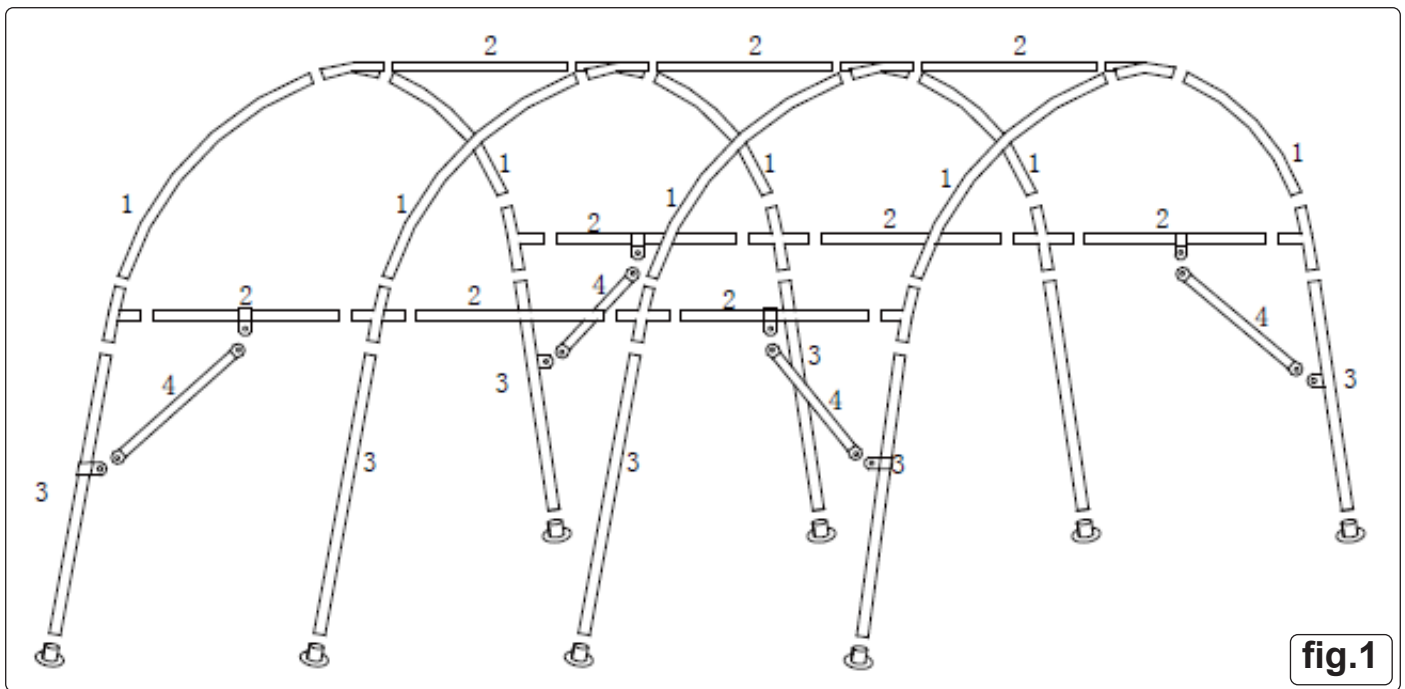

fig.1
- 4.1.2. Remove all packaging materials and place them back in the box. **DO NOT** dispose of the packaging materials until assembly is complete. Check for completeness and transport damages, refer to figs.1 and 2.